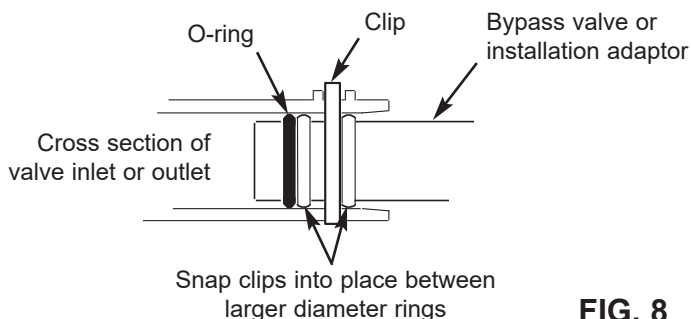

FIG. 8
- Snap the two large plastic clips in place on the inlet and outlet ports, from the top, down (See Figure 8). Pull on the bypass valve or installation adaptors, to make sure they are held securely in place.